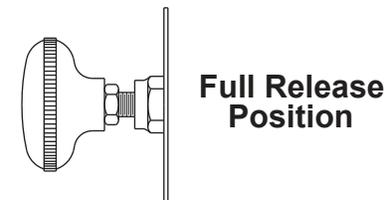

FIGURE 2
2. Move knob to full release position as indicated on dash plate (Figure 2).